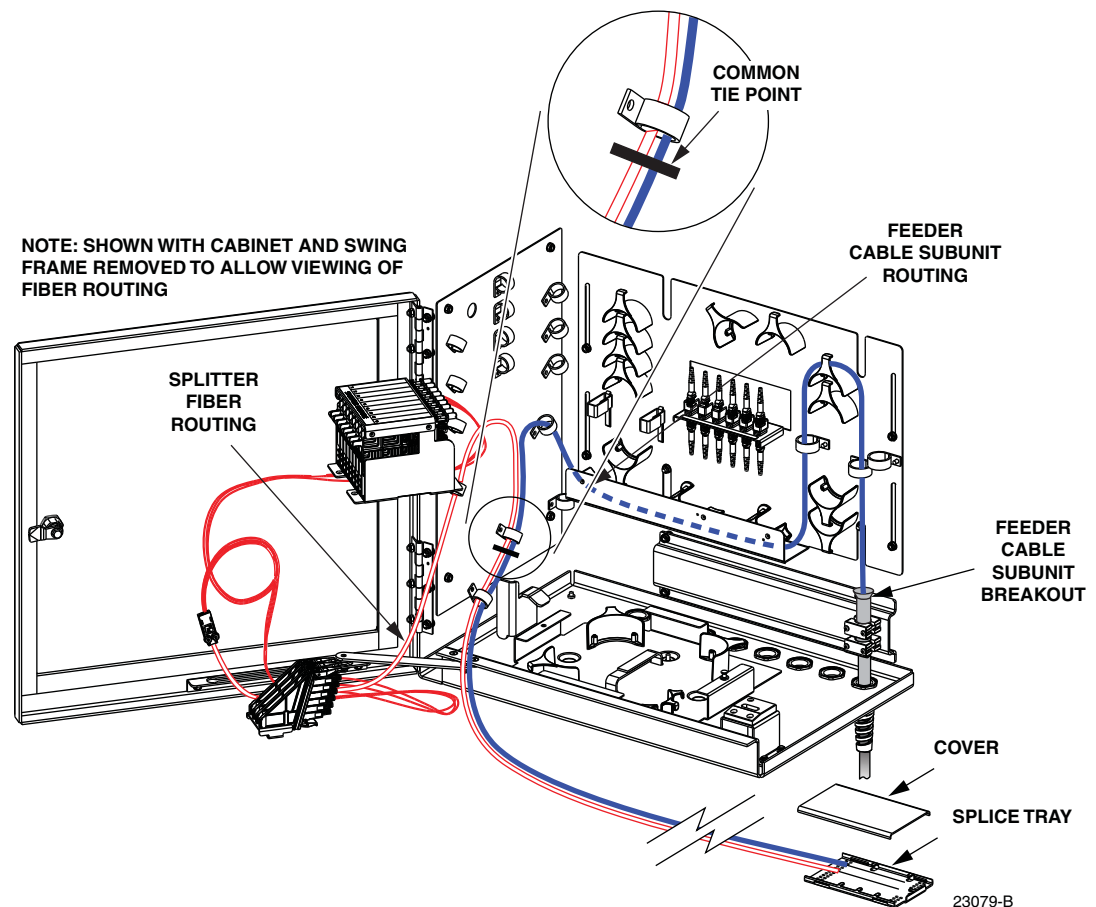

Figure 40. Feeder Fiber Routing to Splice Tray - Stranded Cable
4. Beginning at the feeder cable subunit breakout point shown in Figure 40, route the feeder cable fibers to the intersect point with the splitter fibers.